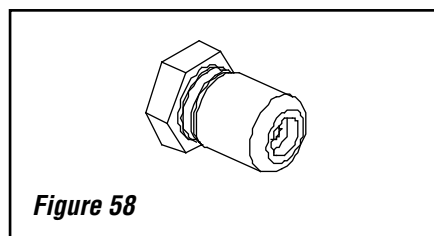

Figure 58
Step 12. (Refer to **Figure 55 on Page 31 and Figure 58**)
A. Remove the orifice from the manifold and replace it with the one provided in the kit. See the following table for orifice sizes for natural and propane models. **Figure 58** illustrates the orifice. Use pipe joint compound or Teflon tape on all pipe fittings before installing (ensure propane resistant compounds are used in propane applications, do not use pipe joint compounds on flare fittings).